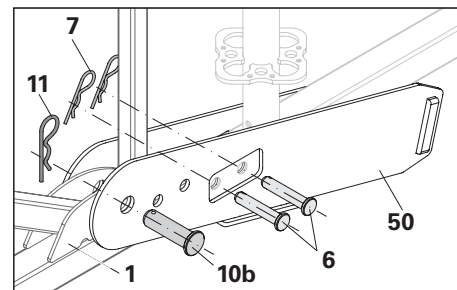

Fig. A1.05a
Fit the bolt (**10b**) and cotter pin (**11**) – from the outside inwards. (Fig. A1.05a)
4. Insert Bolts (**6**) – from the outside to the inside – through the holes of the bottom chord and secure with cotter pins (**7**) – 2x. (Fig. A1.05a)